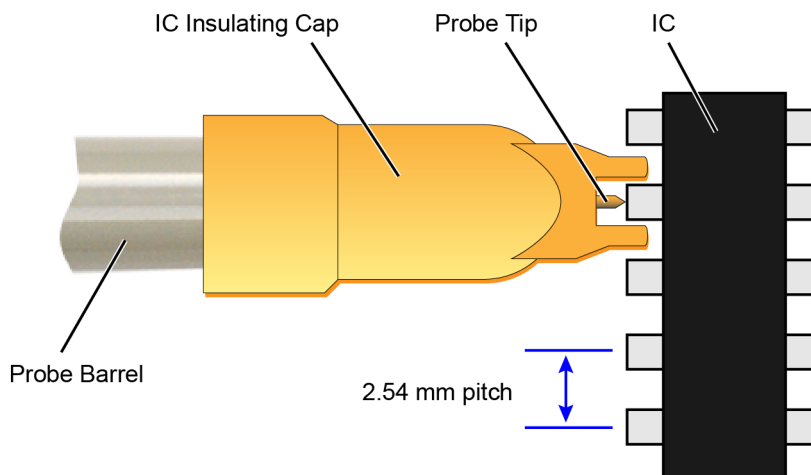

Figure 10 Top View of IC Insulating Cap Positioned Over IC Pin (*not drawn to scale*)
**Figure 10** shows how the cap fits around the IC pins. Notice where the probe tip comes through the cap. Use the alligator ground lead when probing with the IC insulating cap.
The cap is designed to fit on ICs that have 2.54 mm pitch spacing as shown in **Figure 10**.